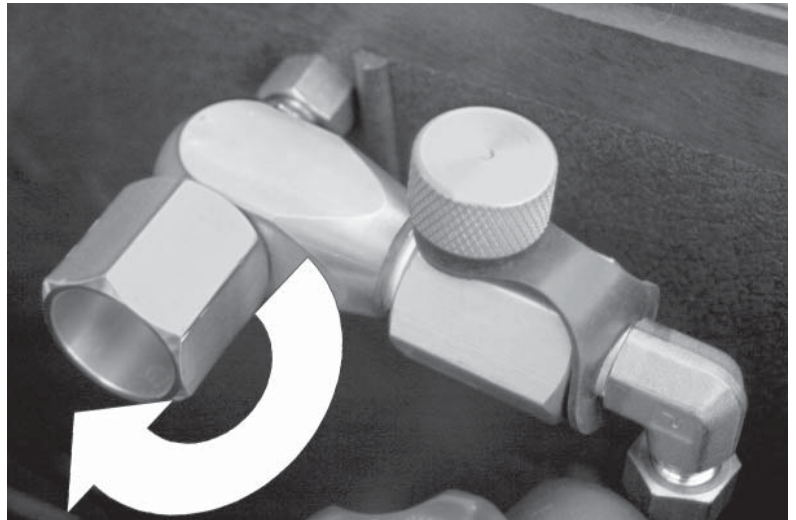

figure 13
7.5. Attach the fill hoses to the provided mounts (NUT2) (figure 13).